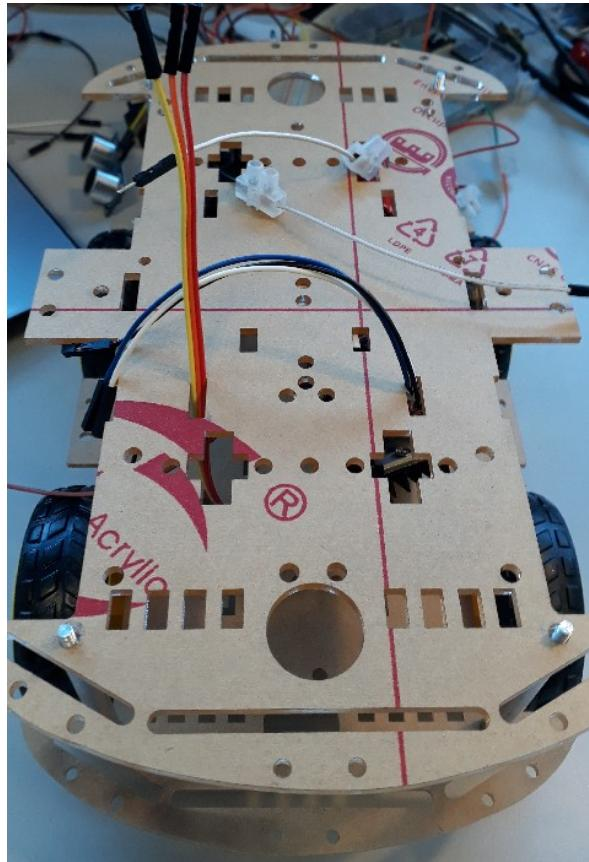

Figure 19: Motor control wires threaded through the top plate.
Step 17: In step 14 you attached six female-female jumper cables to the motor control board. Take the left hand set of three wires and thread them through the top plate, then take the right hand set of three wires and thread them through the top plate. This is shown in figure 19.